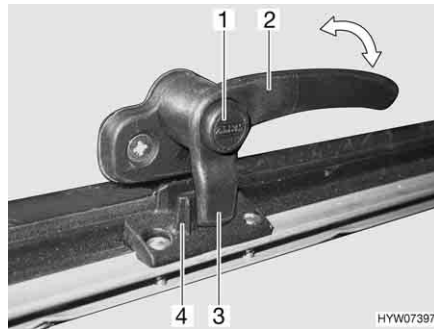
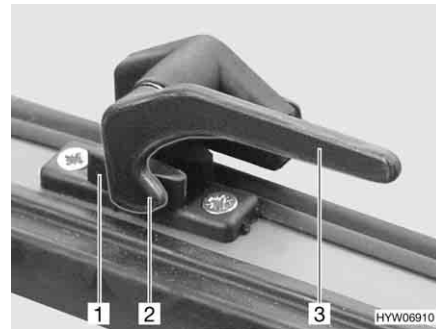

Fig. 102 Catch lever with safety knob in "closed" position
Fig. 103 Catch lever in "closed" position
- Press and hold the security button (Fig. 102,1), if present.
- Turn all catch levers (Fig. 102,2 or Fig. 103,3) a quarter turn towards the centre of the skylight.
- Turn all catch levers (Fig. 102,2 or Fig. 103,3) a quarter turn towards the frame. The locking catch (Fig. 102,3 or Fig. 103,2) is located on the inside of the skylight lock (Fig. 102,4 or Fig. 103,1).
- "Firmly closed" (Fig. 102 and Fig. 103)